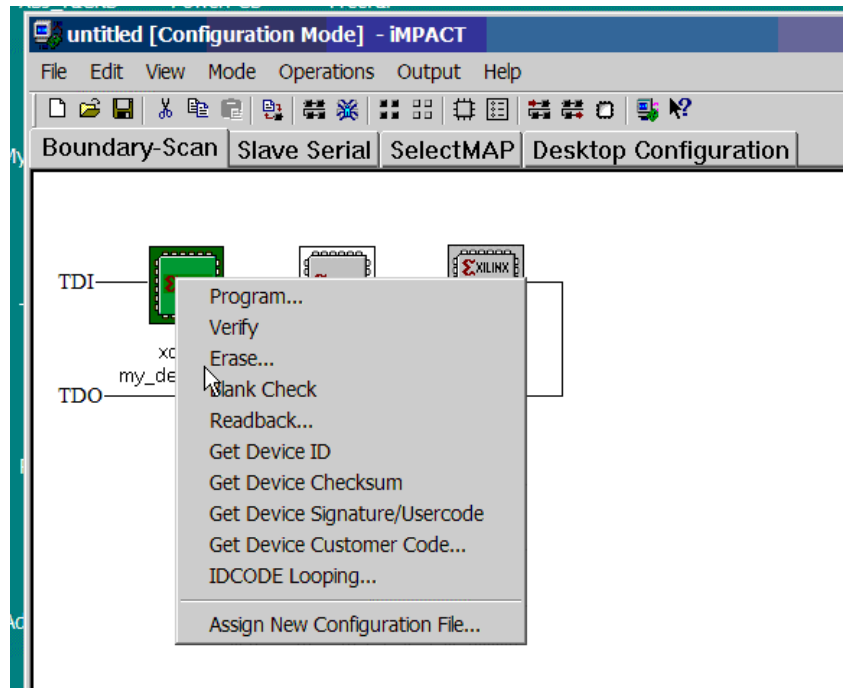

Figure B-13: Programming the PROM
- Right mouse click on the icon for the XCF32P PROM and select Program from the drop down menu as shown in Figure B-13.